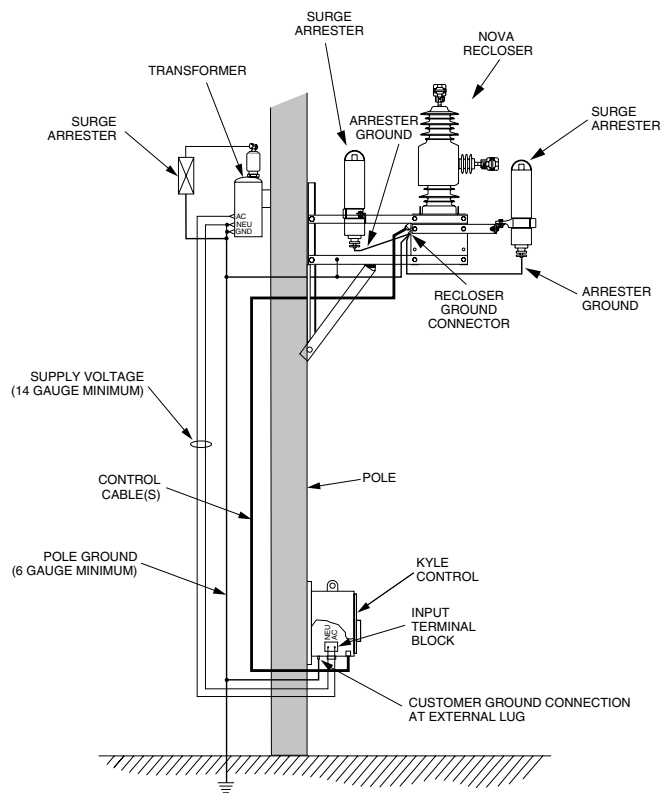

Figure 11.
- Refer to Figures 11, 12, and 13 for recommended grounding for the Type NOVA recloser.
Installation with a local supply voltage transformer must include the following (refer to Figure 11):